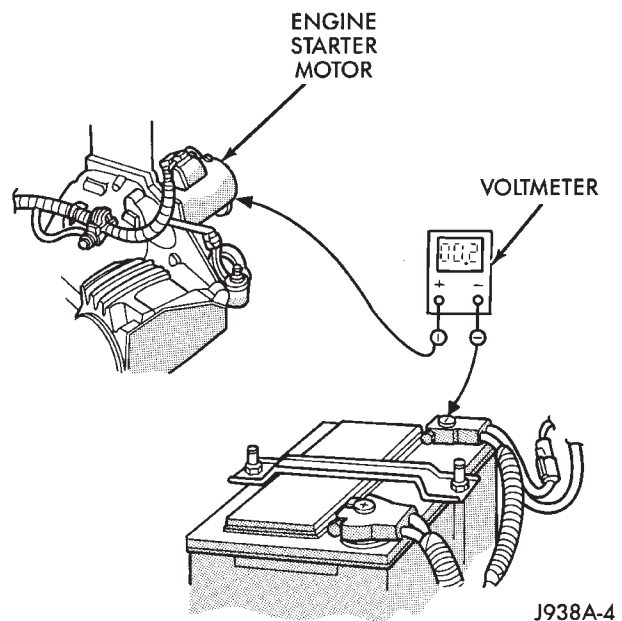

Fig. 6 Test Starter Motor Ground (Typical)
(6) Rotate and hold the ignition with (key) in the START position. If voltage reads above 0.2 volt, correct poor contact at ground cable attaching point. Voltage reading still above 0.2 volt, replace ground cable.
(7) Connect positive voltmeter lead to the starter motor housing and the negative lead to the battery negative terminal (Fig. 6).